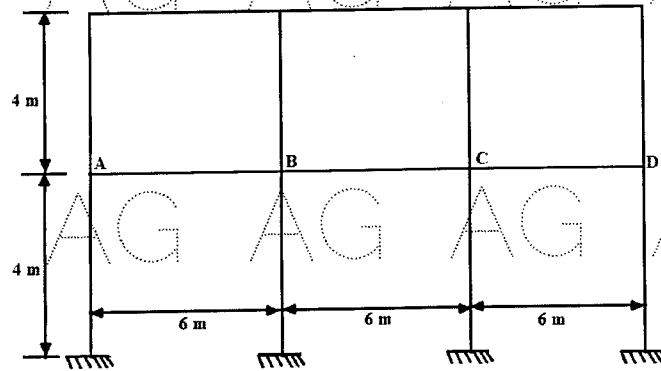

Figure 8
10. In a multistoreyed building, the frame shown in figure 8. are spaced at 4 m intervals. Dead load from the slab is 3 kN/m^2 and the live load is 5 kN/m^2 . Analyse the beam BC for midspan positive bending moment. Self weight of the beams may be ignored. Use two-cycle moment-distribution method. [10]